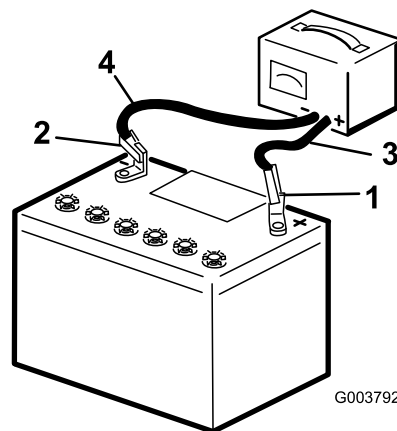

Figure 34
2. Charge the battery for 10 to 15 minutes at 25 to 30 A or 30 minutes at 4 to 6 A (Figure 34). Do not overcharge the battery.
3. When the battery is fully charged, unplug the charger from the electrical outlet, then disconnect the charger leads from the battery posts (Figure 34).
1. Using the fasteners previously removed, install the positive (red) battery cable to the positive (+) battery terminal (Figure 34).
3. Using the fasteners previously removed, install the negative (black) battery cable to the negative (-) battery terminal (Figure 34).
4. Secure the battery using the bar and wing nuts (Figure 34).